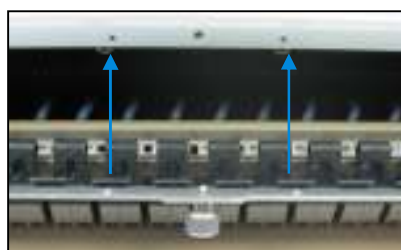

Fig. 5 - Front Plate Guiding Pins and Slots, i
- Following service, fit circuit breaker retaining cover back onto the unit. Make sure the cover attaches soundly to the front of the unit by directing the two guiding pins (**Fig. 5, 6**) into their respective slots. Be certain the captive screws fit into their threads and fasten correctly.